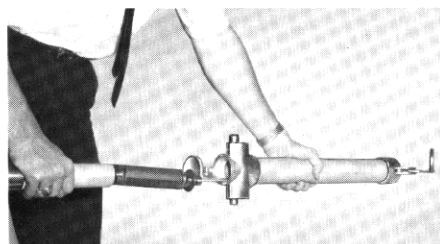

Figure 5
Step 4: Remove the thin plastic disc from the bottom of the fuse refill. Screw new refill unit to the bottom of the spring and shunt assembly, hand tighten. (Fig. 4.) (Caution: Do not use any type of tool to tighten refill.) Screw refill tool into top of spring and shunt assembly, and slide complete unit into the fuse holder, (Fig. 5.)